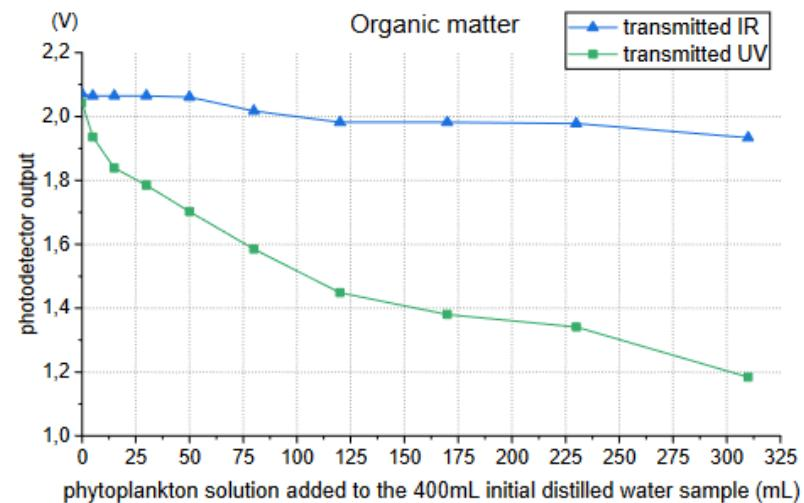

Figure 7. Transmitted IR and UV outputs when organic matter (phytoplankton) is added to water.
Figure 7: Surf zone test results from 13 May. (A) Gauge water level (from FRF pier, blue) and measured water level at one of the two instrument poles (black). Elevations of OBS4 and a commercial sensor (RBR Tu) are shown. (B) Commercial sensor turbidity results (16 Hz). (C) OpenOBS results (200 Hz). (D) Expanded view of the water-level record for 4 minutes on 13 May. (E) Expanded view of the OpenOBS record. (F) Expanded view of the commercial sensor turbidity record.
Figure 7. Conceptual scheme of a direct calibration of SSC to the light detected by a sensor in a river with several subcatchments that all have different sediment types and grain size distributions and therefore, emit different scatter spectra. In this example, every subcatchment experiences an isolated rainfall event on a different day. The sensor detectors at the downstream end of the river have a different light intensity response depending on the sediment type. After sampling many different events, a single calibration curve representative of the different subcatchment sediment sources and their activation frequencies can be obtained.